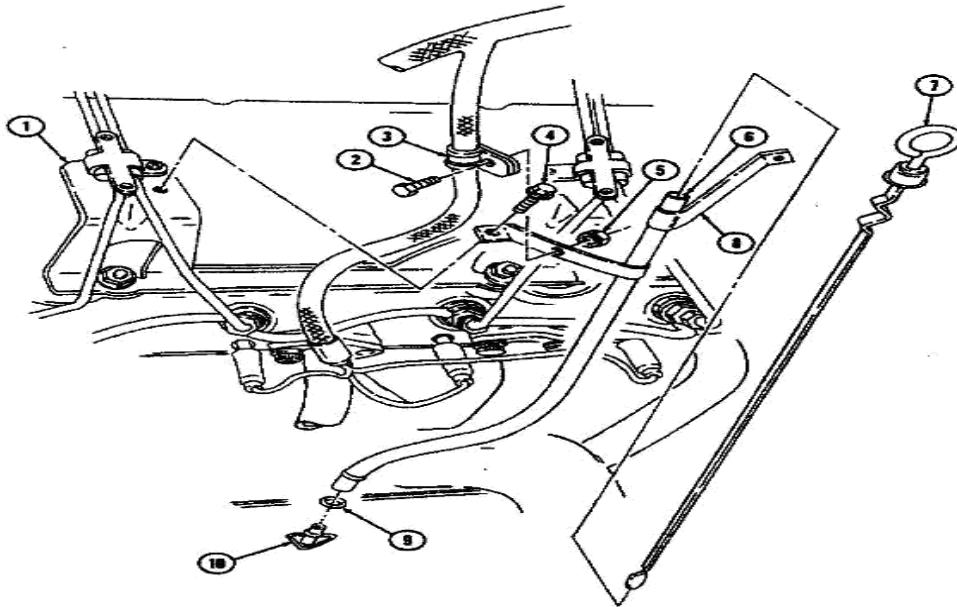

Figure 15
o. Removal of Oil Dipstick and Oil Dipstick Tube. TM 9-2320-387-24-1, Chapter 3, Task Para 3-2, Page 3-2 and **Figure 15** contained in these instructions.
- (1) Remove oil dipstick (7) from oil dipstick tube (6).
- (2) Remove nut and lock washer assembly (5) and cap screw (2) from harness clamp (3) and upper dipstick tube bracket (8). Discard nut and lock washer.
- (3) Remove two screw-assembled washers (4) from upper dipstick tube bracket (8) and fuel line bracket (1).
- (4) Remove oil dipstick tube (6) from engine oil pan (10).
- (5) Remove and discard O-ring (9).